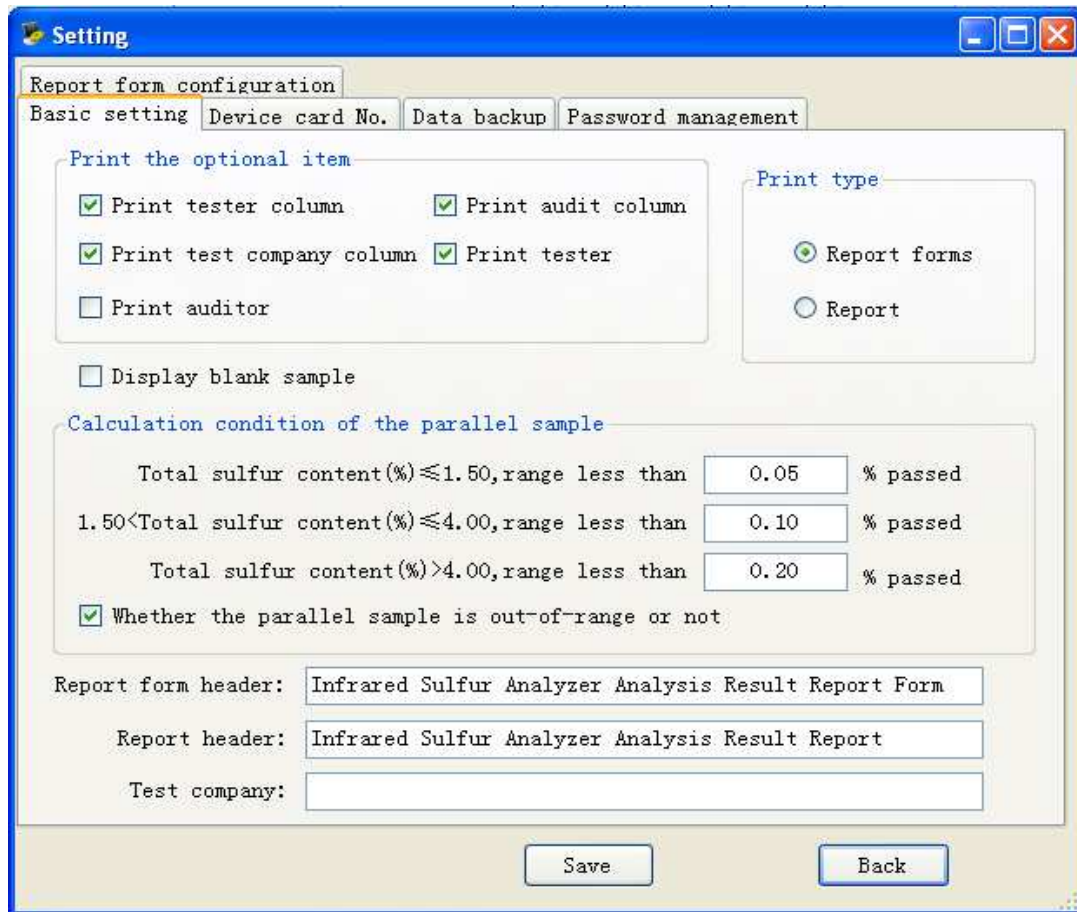

Fig.5-1-2
**1. Setting:** Click this bar, popup the window as Fig.5-1-2
**1-1.Basic setting:** Click “Basic Setting” on the Setting window popup the window as Fig. 5-1-2.